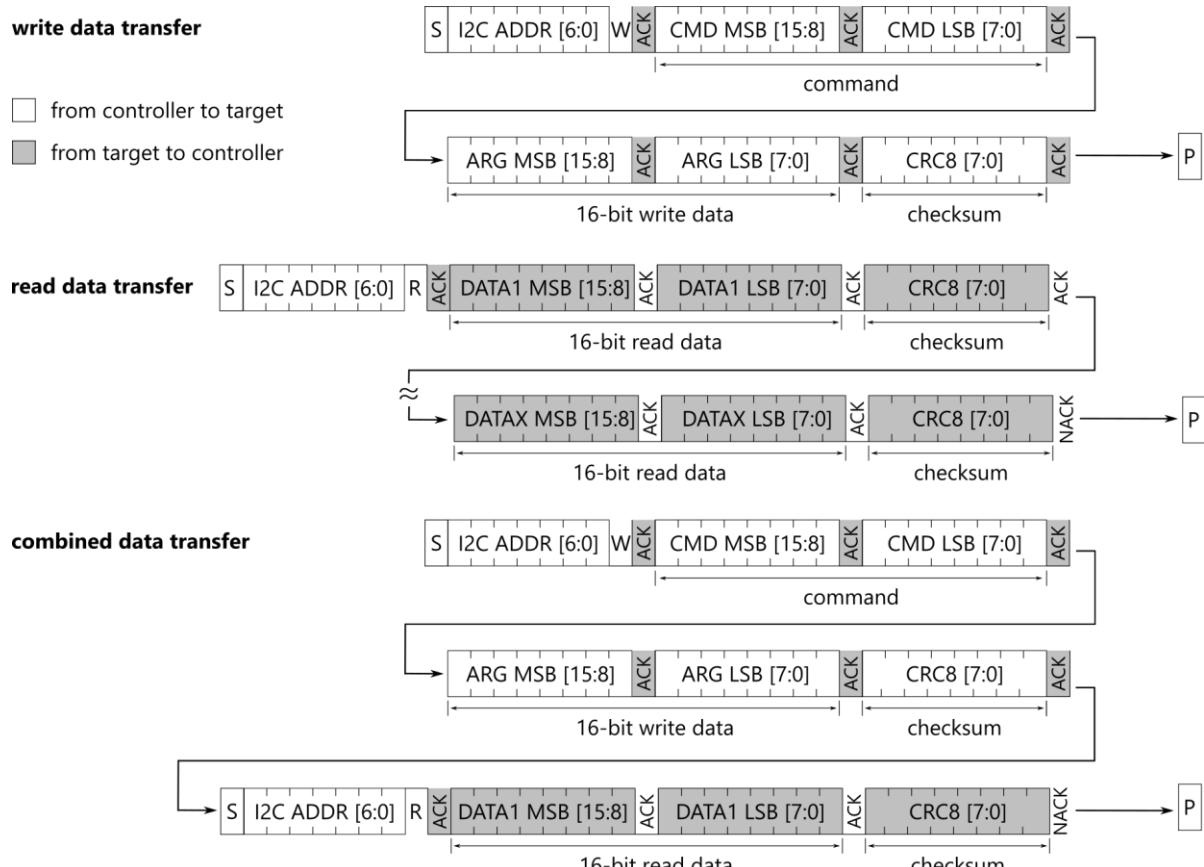

Figure 2. Write, read and combined data transfer formats
The write, read and combined data transfer formats are visualized in Figure 2. Data and commands are transferred in multiples of 16-bit words, with the most significant byte (MSB) transmitted first. All transfers must begin with a start condition (S) and terminate with a stop condition (P). A sensor is addressed by sending its 7-bit I²C address, followed by an eighth data direction bit denoting the communication direction (W/R): "zero" indicates transmission to the target (i.e., "WRITE") and "one" indicates a request for data (i.e., "READ"). Data words are succeeded by an 8-bit checksum (cyclic redundancy check CRC-8, see Section 3.3). Command words (CMD) contain a 3-bit CRC. In the write direction, the checksum must be transmitted. In read direction, the master may abort transmission after any data byte by sending a not acknowledge (NACK) and a stop condition. After receiving a command, the sensor requires the specified execution time before responding with a ACK.